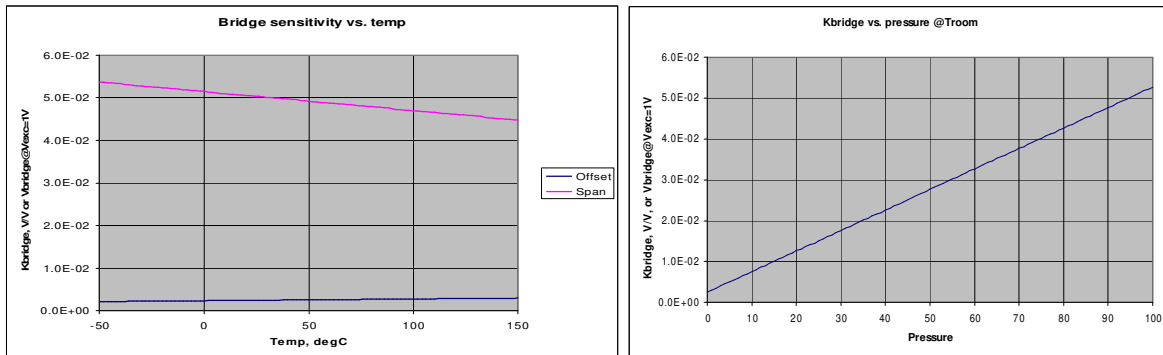

Figure 36: Approximated Sensor Curves
Upon completion of the measurements the fitted sensor function is displayed on two plots located on this worksheet (see Figure 36).
- 8) Verify that the resulting fitted sensor approximation (Figure 36) are in agreement with the characterization data.